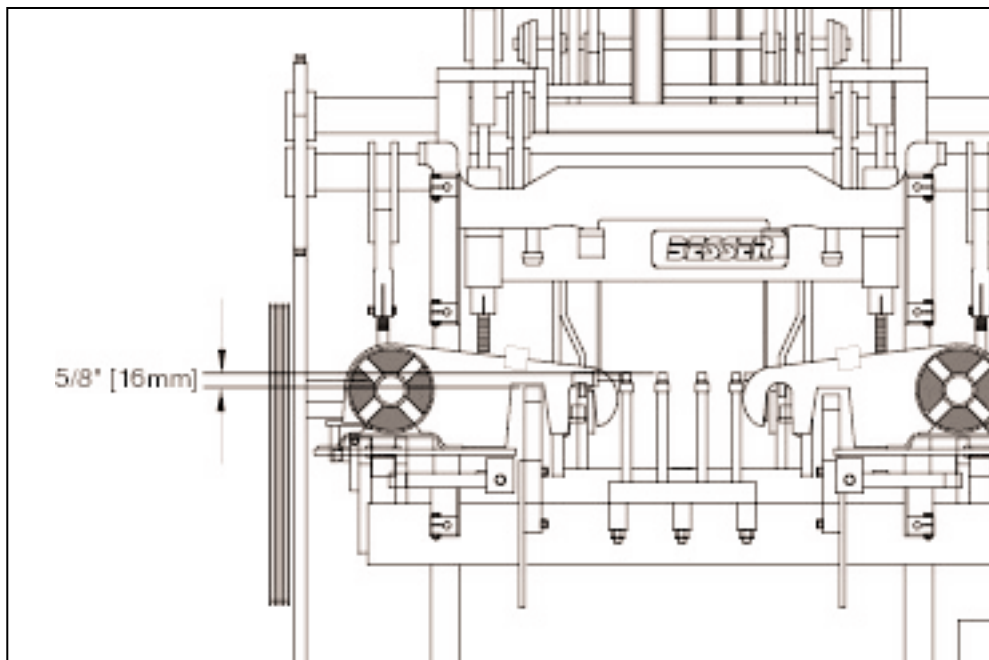

Figure 4.29 PALLET RECEIVER RUBBERS POSITION.
4.2.6 Adjust the pallet receiver frame so that the pallet receiver rubbers are **5/8" [16mm]** above the mold throat (see figure 4.29).